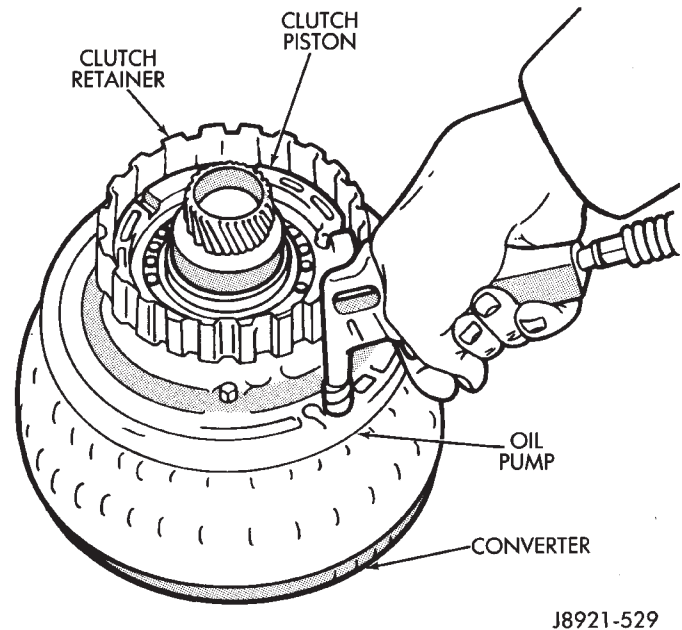

Fig. 9 Removing Overdrive Clutch Piston
(9) Mount oil pump on converter. Then mount clutch on oil pump (Fig. 9).
(10) Hold clutch piston by hand and apply compressed air through oil pump feed hole to ease piston out (Fig. 9). Apply only enough air pressure to remove piston.